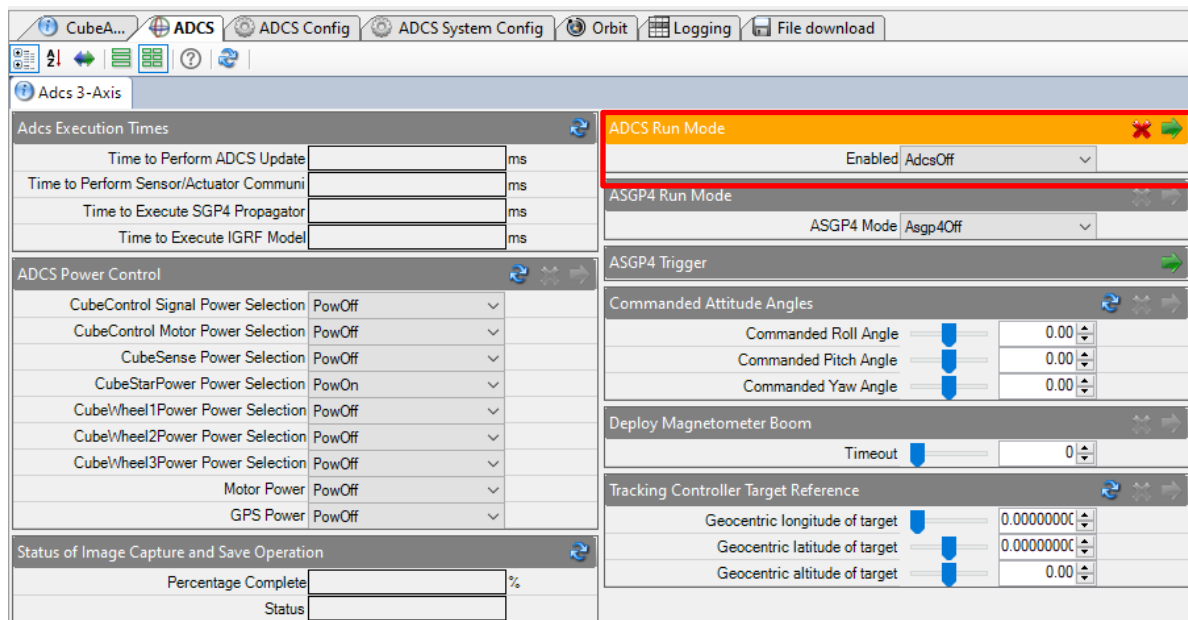

Figure 29 – Disabling ADCS Run Mode
- Now, disable *ADCS Run Mode* by navigating to the *ADCS* → *Adcs 3-Axis* → *ADCS Run Mode* tab and selecting *AdcsOff*, as shown in Figure 29.